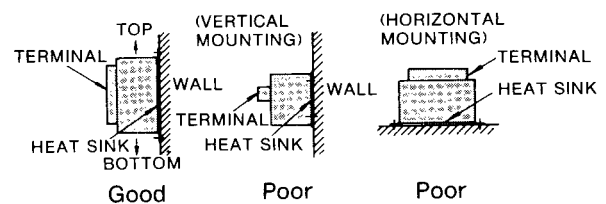

Fig. 7.7 Mounting Direction of SERVOPACK
Mount the unit vertically on the wall using the mounting holes (4) on the base plate, with main terminals at the bottom. (Fig. 7.7)